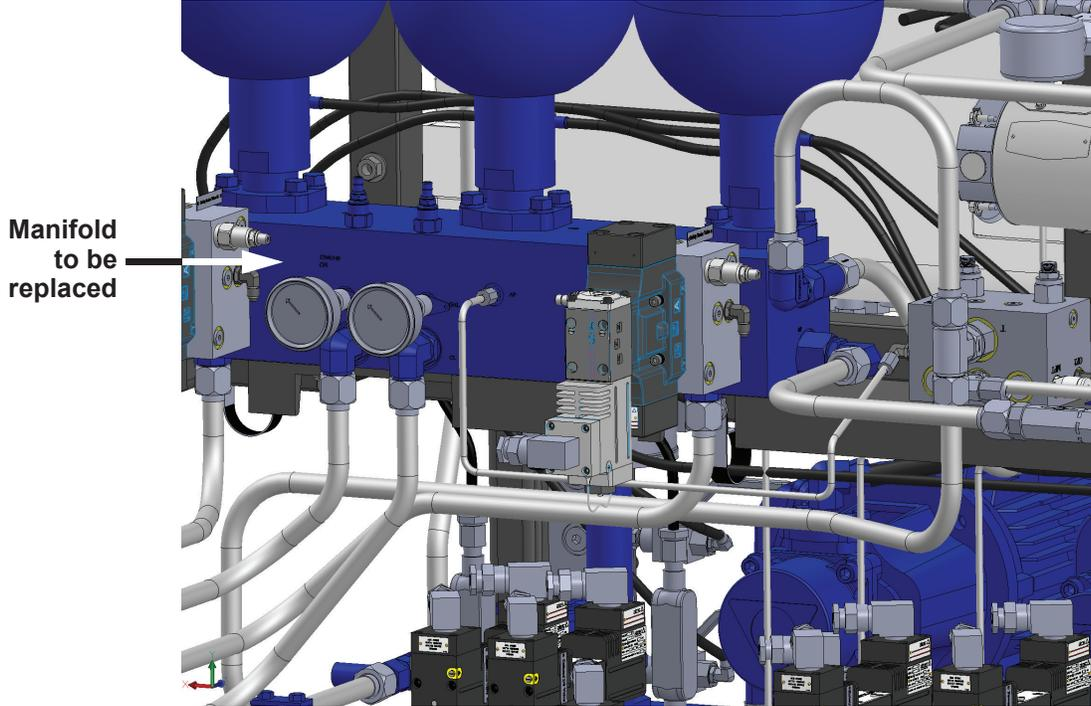

Figure 1: Brake Dampening on the HPU (B and S Rigs)
- For B and S Rigs: Canrig P/N AY21225 – Brake Dampening Upgrade Kit, Drwks. See note under “Procedure” on page 3 and Figure 1 on page 2.